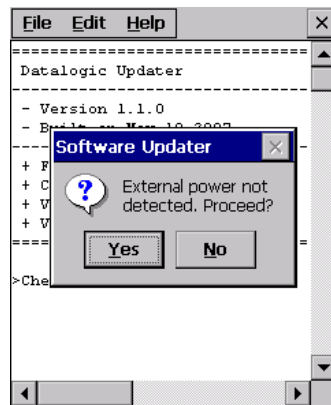

Figure 2
6. DLUpdater detects whether an external power source is present. If not, a warning will come up on the screen asking for a confirmation before carrying on (see figure 2).